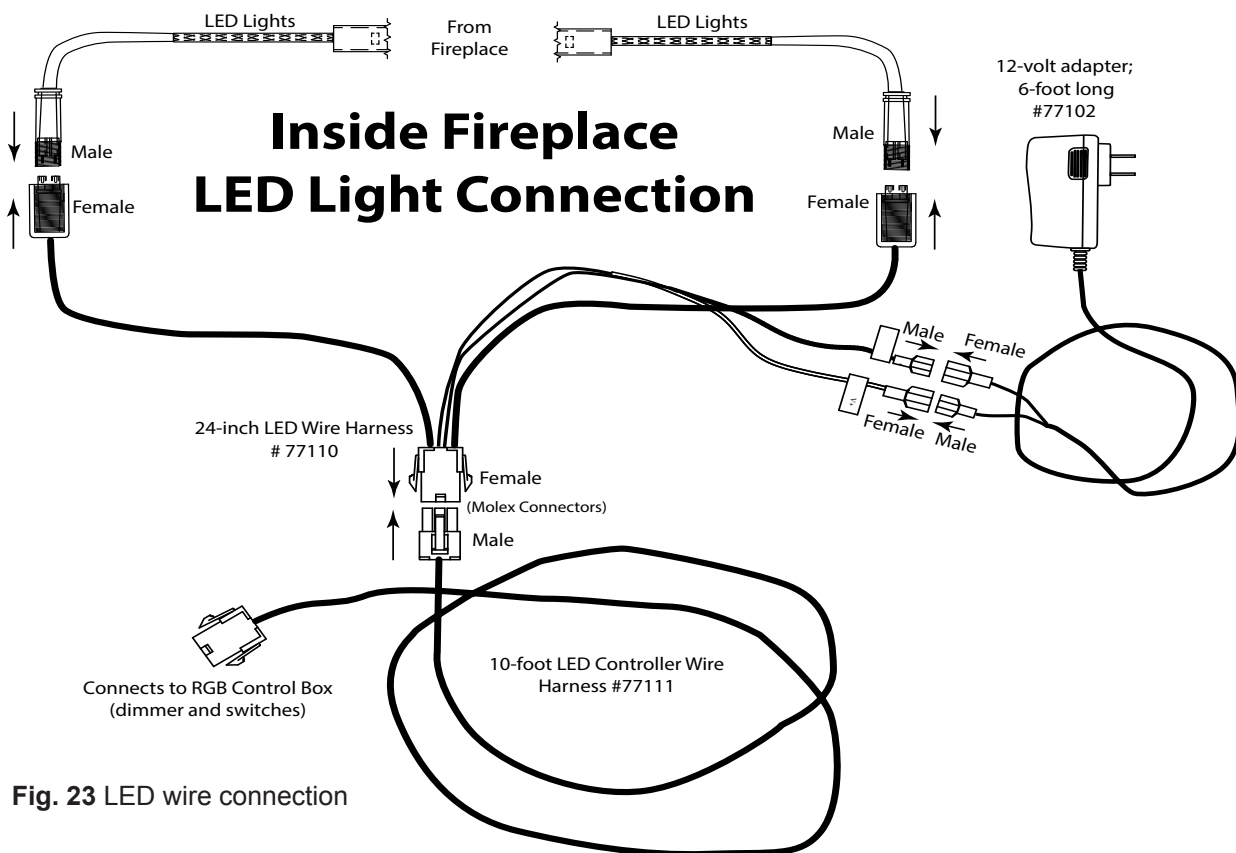

Fig. 23 LED wire connection
Step 8: With bottom end removed, insert the LED channel assembly female connector (protruding through the wire grommets) to the LED male connector 77110. **Note:** The male end of the LED connector will only insert into the female connector in one direction. Once locked in position, screw the threaded cap of the female connector securely over the male connector. See Fig. 23.